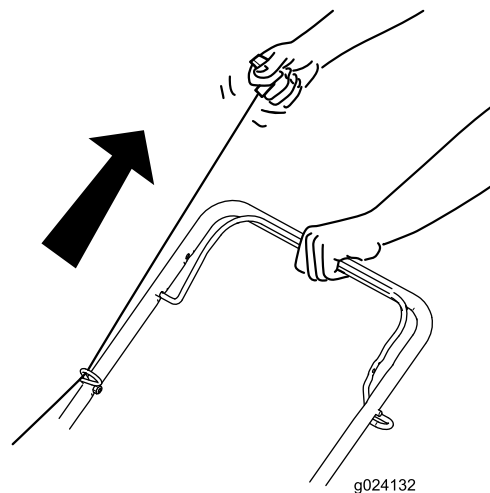

Figure 12
3. Pull the recoil-start handle (Figure 12).